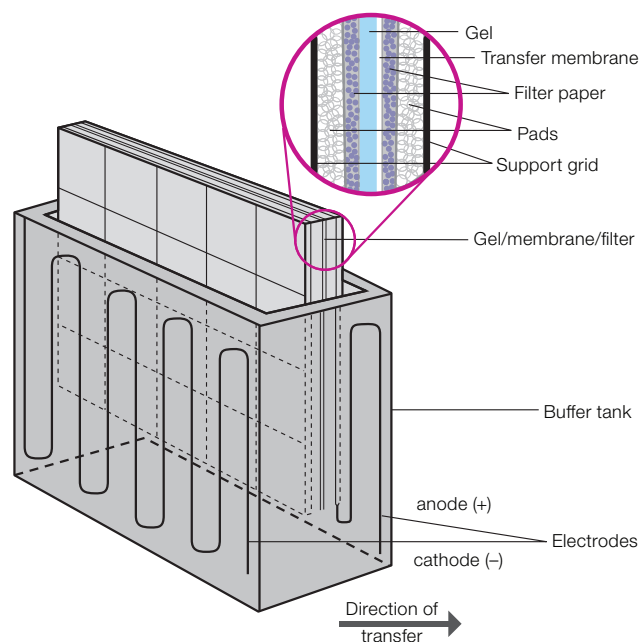

Figure 4. Electrophoretic transfer setup.
3. Construct a gel sandwich (Figure 4) for wet transfer. For semi-dry transfer, prepare the sandwich in the same order between the anode and cathode.